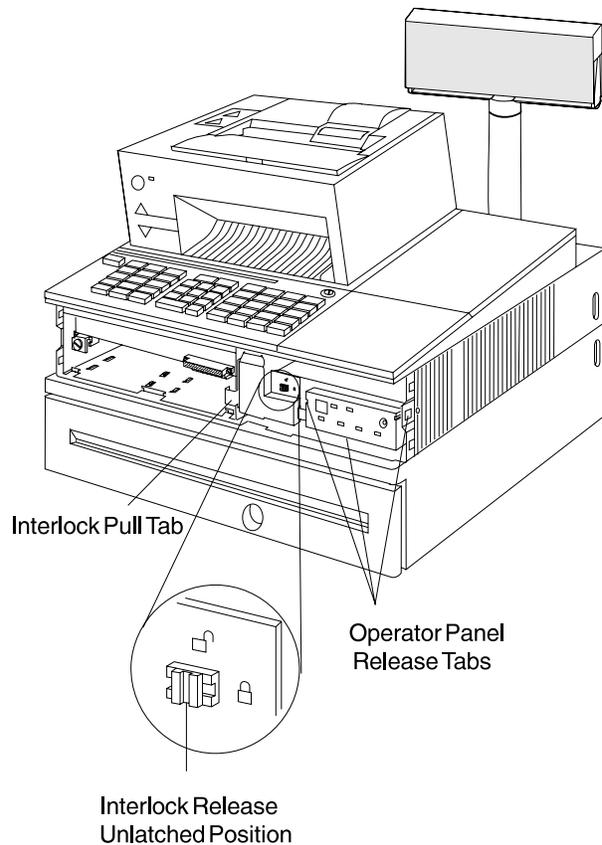

Figure 3-11. Interlock and Operator Panel Removal
2. Turn the interlock release to the vertical position to disengage the interlock assembly. See Figure 3-11. Notice the locked and unlocked symbols next to the release.
4. There are three tabs holding the operator panel in place. See Figure 3-11.